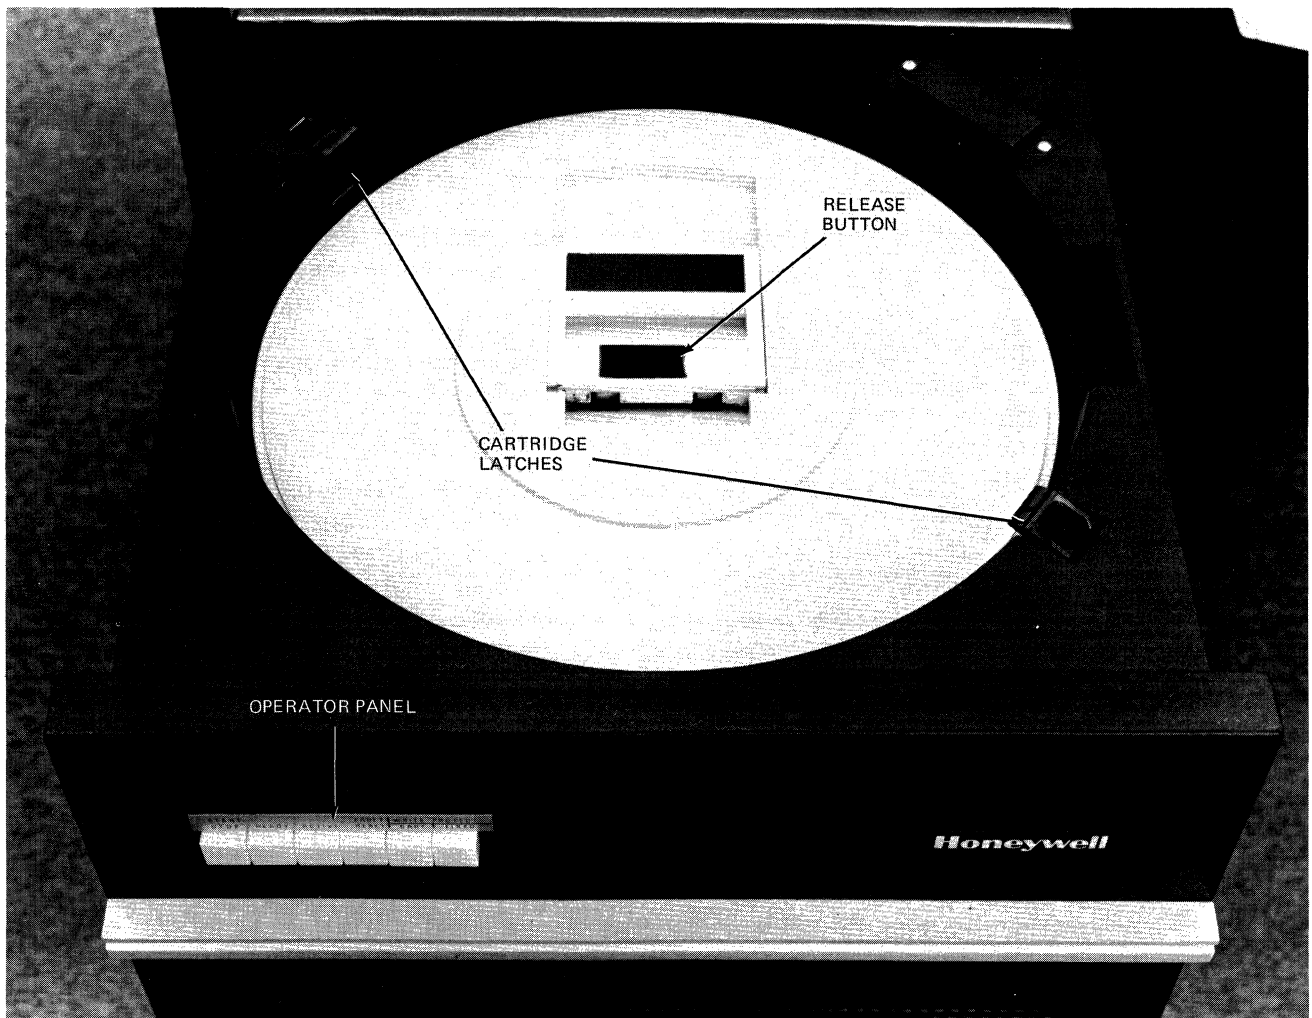

Figure 11-3. CDU9114/9116 Controls and Indicators
Cartridge disk controls and indicators are shown in Figure 11-3.
9. Move the cartridge latches (Figure 11-3) into the locked position which has them clamping the top cover of the cartridge. If the latches do not close over the cover, the cartridge is not installed properly.